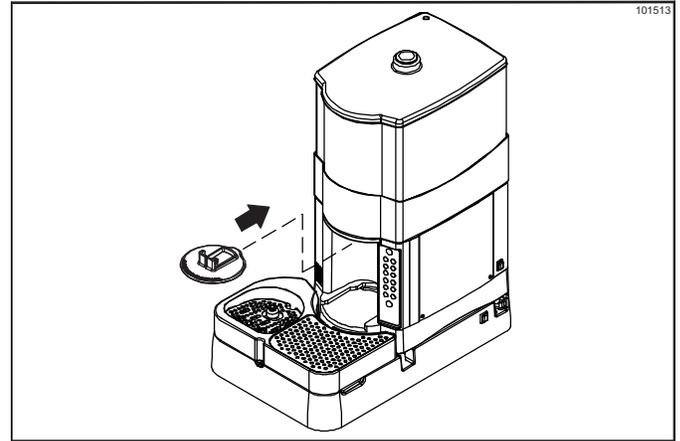

Figure 6-7
- Reinstall the splash guard. (See Figure 6-7.)